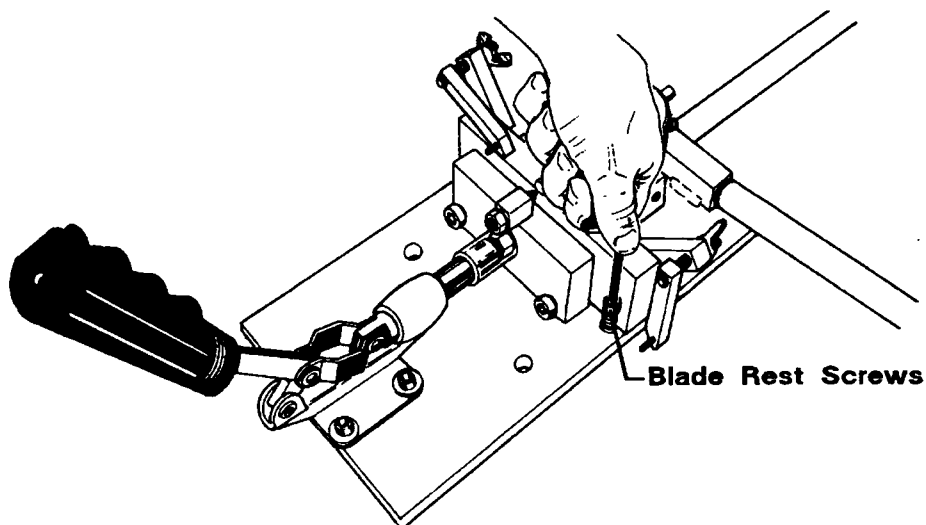

FIG 2-53
3. Remove the alignment shim and place a blade in the blade supports so it lies in all three roller assemblies and routes through the clamping fixture of the setter. Readjust the clamp nut so a light push on the clamp handle holds the blade firmly. Adjust the blade rest screws up or down so that the gullet of the blade is even with the top edge of the clamping plates (See Figure 2-53). During the actual setting operation, the blade rest screws will be adjusted according to tooth height (See Tooth Setter/Gauge Operation). The blade support tubes may need to be bent down in order to prevent them from raising the blade off of the rest screws.